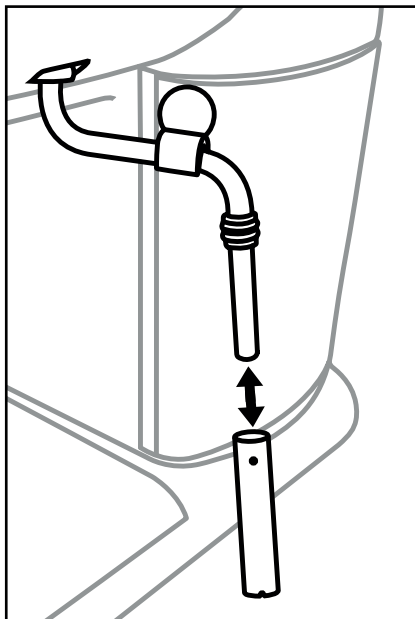

Figure 1
- 1) Place an empty container under the milk frother ❹.
- 2) Turn the steam control ❷ to  immediately after use and let the steam escape for a few seconds.
- 3) Close the steam control ❷ (turn it towards "0" as far as it will go), switch the appliance off and remove the plug from the mains power socket.
- 5) Pull the casing of the milk frother ❹ off (Figure 1) and clean it thoroughly in warm water.
- 7) Push the casing back onto the nozzle (Figure 1).